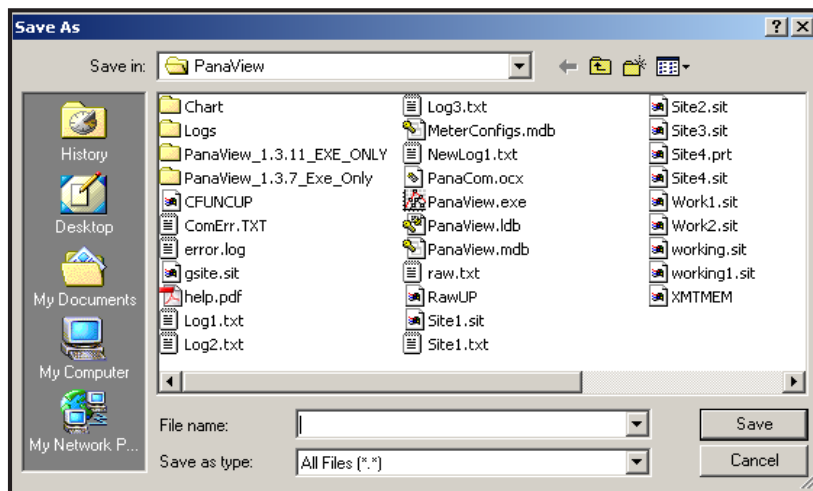

Figure 13: Saving Signal Array Data to File
- If you double-click on *To File*, another window opens similar to Figure 13. Enter a file name and click [Save]. PanaView stores the array data in a Windows file, and closes the *Calibration/Test* window.
- If you double-click on *To File*, the *Save As* window (similar to Figure 13 on page 51) opens. Enter a file name and click [Save]. PanaView stores the array data in a Windows file, and closes the *Calibration/Test* window.